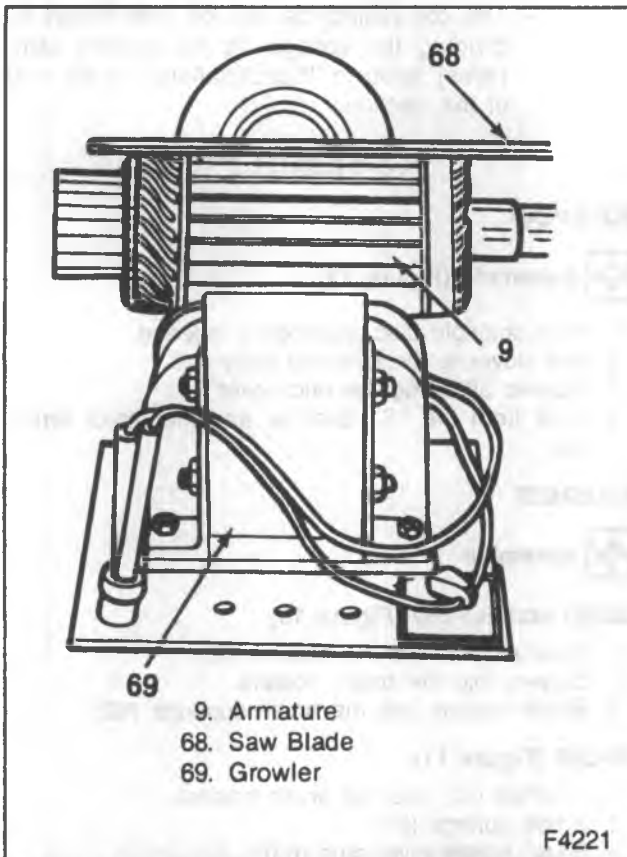

Figure 13—Testing the Armature for Short Circuits
5. Armature for short circuits (figure 13).